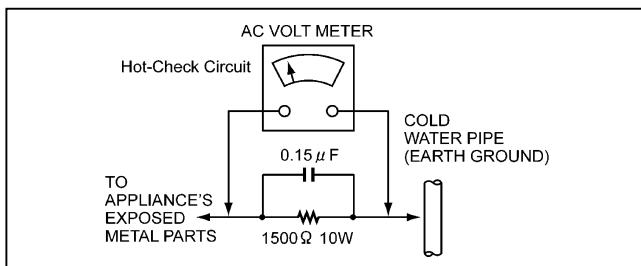

Figure1
LEAKAGE CURRENT HOT CHECK (See Figure 1)
2. Connect a $1.5K\Omega$, 10W resistor, in parallel with a $0.15\mu F$ capacitor, between each exposed metallic part on the set and a good earth ground such as a water pipe, as shown in Figure1.